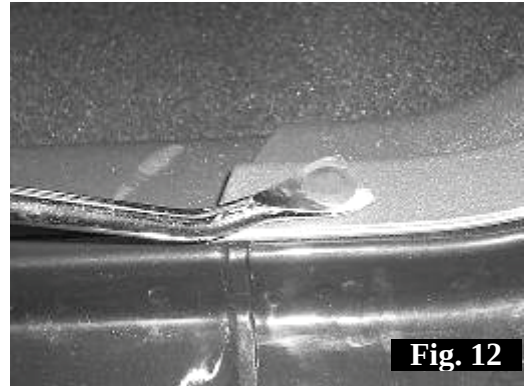

Fig. 12
18. Using a panel removal tool remove the four plastic retainers (three in front door opening and one in rear door opening) securing the driver's side sill plate and B pillar post cover. Fig. 12